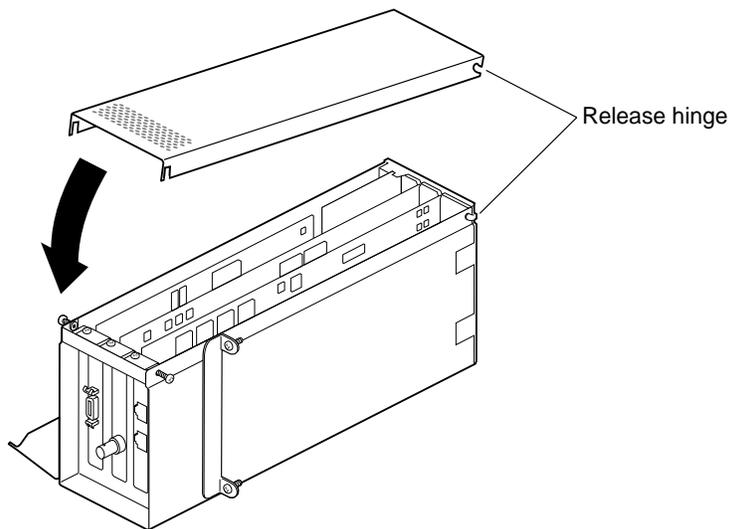

Figure 4-27 Reinstalling the PCI Module Door, as shown in Figure 4-28.
8. Reinstall the PCI module door, as shown in Figure 4-27.